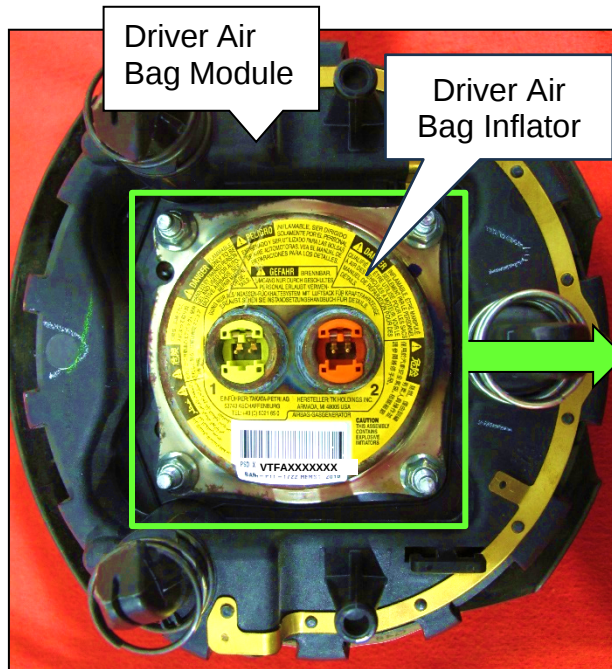
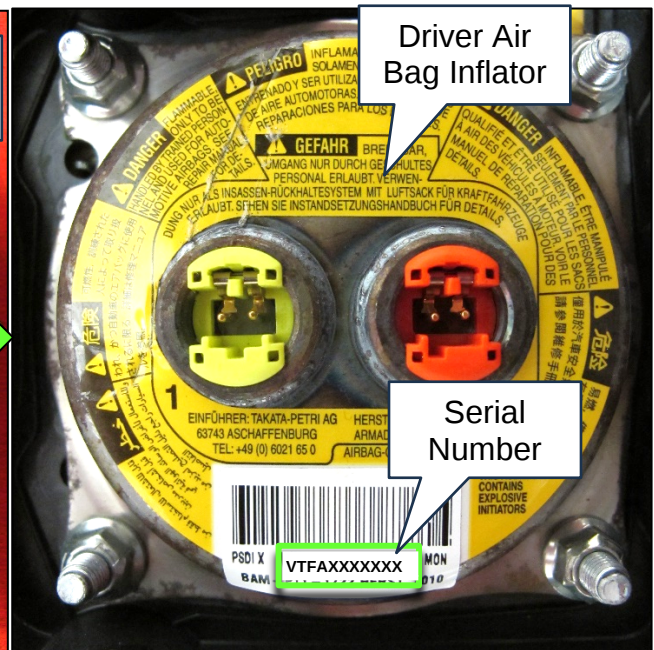

Figure 2
Figure 3
7. Locate the bar code Serial Number (11 digits) on the inflator of the Driver Air Bag Module, as shown in Figure 2 and Figure 3.